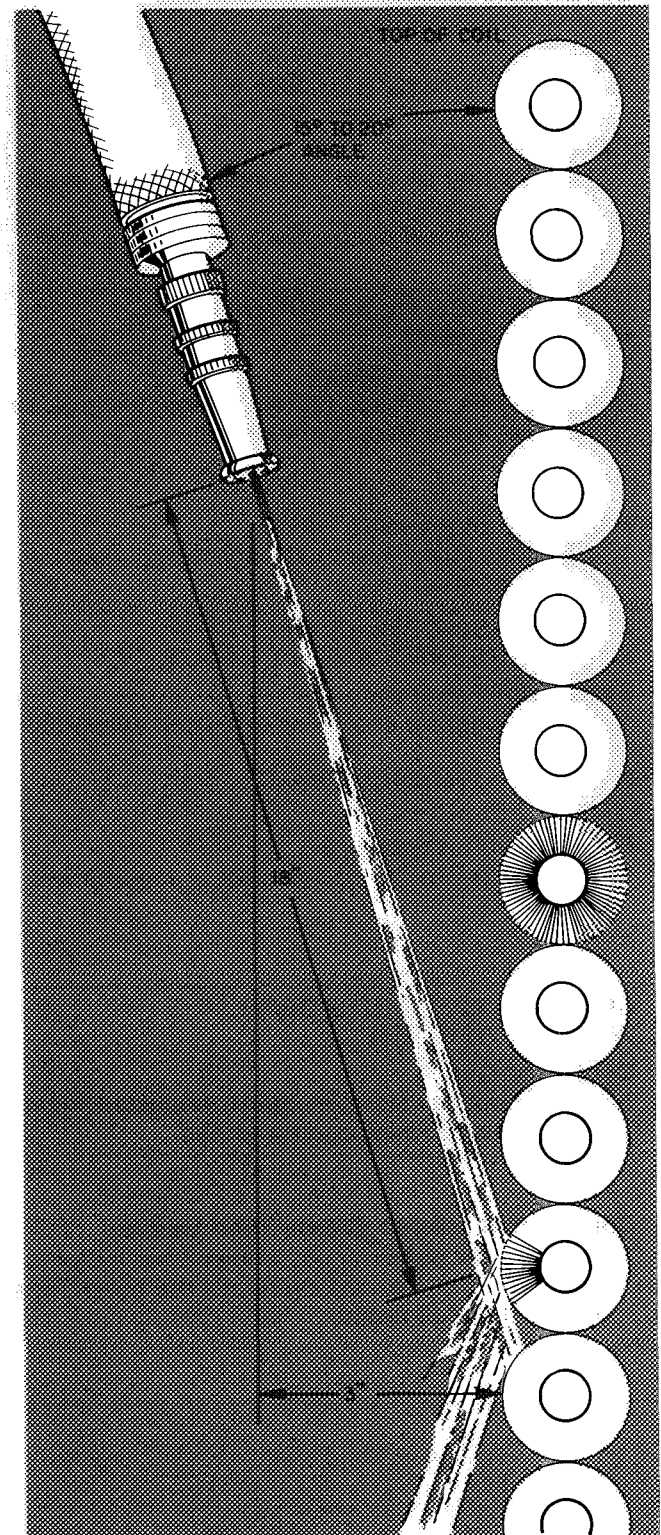

Fig. 11 — Positioning Hose to Spray Coil
- Using garden hose, spray coil vertically downward with a constant stream of water at moderate pressure (see Fig. 11). Keep nozzle at a 15 to 20 degree angle, about 3 in. from coil face and 18 in. from tube. Spray so debris is washed out of coil.